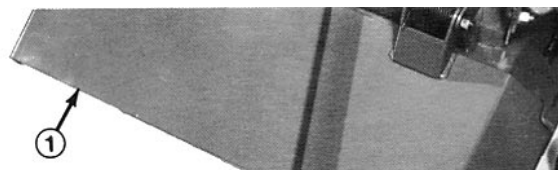
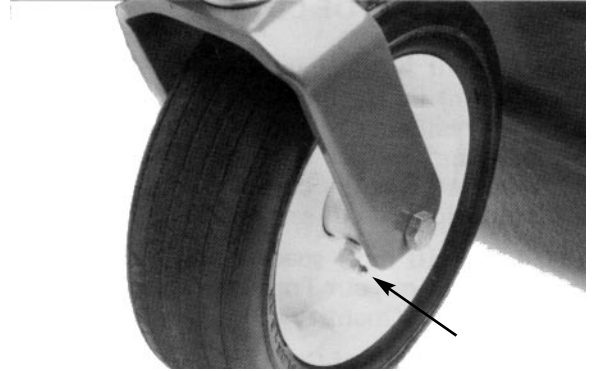

Figure 4
Figure 6
1. The cutting unit has bearings and bushings that must be lubricated, and these lubrication points are: the caster spindle bushings (Fig. 4); caster wheel bearings (Fig. 4 and 5); blade spindle bearings (Fig. 6); right and left push arm ball joints (Fig. 6).
2. Lower the cutting unit so the caster wheels are on a level surface. Remove check plug (Fig. 6) from the side of gear box and check the level of lubricant. If the level of lubricant is low, remove the fill plug on top of gear box and add SAE 80-90 wt gear lube until the level is up to the bottom of check hole.